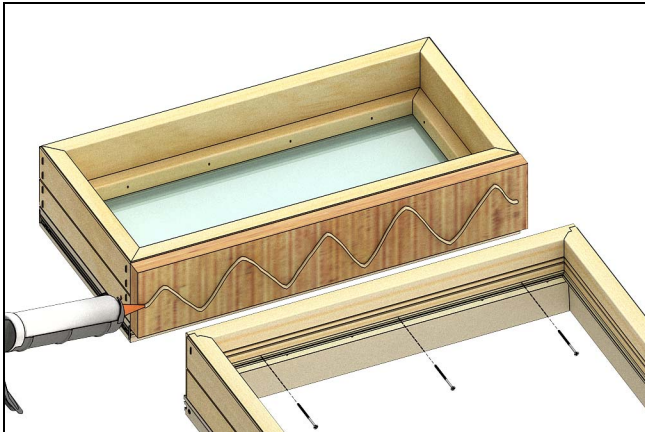

Figure 29
4. Apply adhesive in a wiggle pattern on the LVL or space mull. See Figure 29.